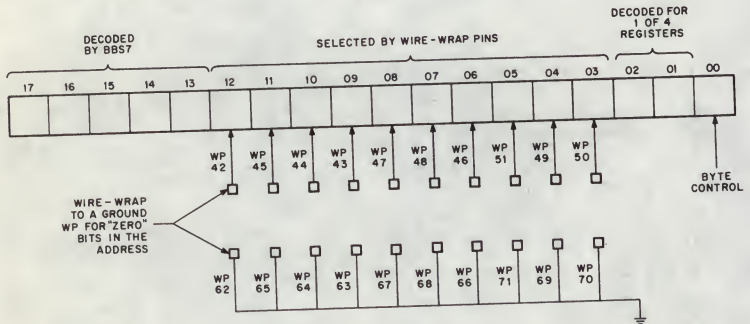

Figure 3 DRV11-P Device Address Select Format
Figure 3 shows the address select format and presents the wire-wrap pin-to-bit relationship for device address selection. Bits to be decoded as 0 bits in the base address are wire-wrapped to ground wire-wrap pins (WP). Bits to be decoded as 1 bits are left unwrapped as these bits are pulled up to the 1 state.